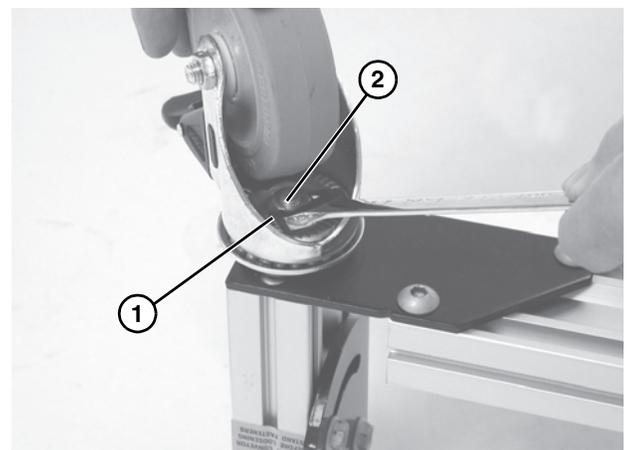

Figure 13
- Place nut (**Figure 13, item 1**) on bolt (**Figure 13, item 2**). Tighten nut to 177 in-lb (20 N-m).